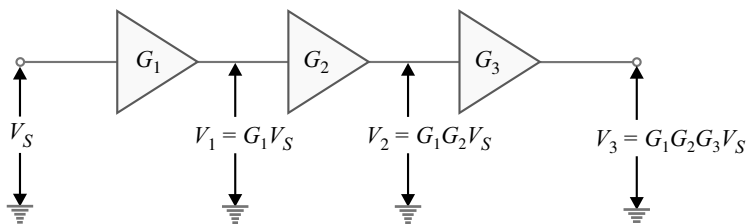

Fig. 9.1
**Gain.** The total \*gain ( $G$ ) of a multistage amplifier is equal to the product of the gains of the individual stages (not the sum!). Consider a 3-stage amplifier shown in Fig. 9.1. If  $G_1$ ,  $G_2$  and  $G_3$  are the voltage gains of the first stage, second stage and third stage respectively, then total voltage gain  $G$  is given by ;